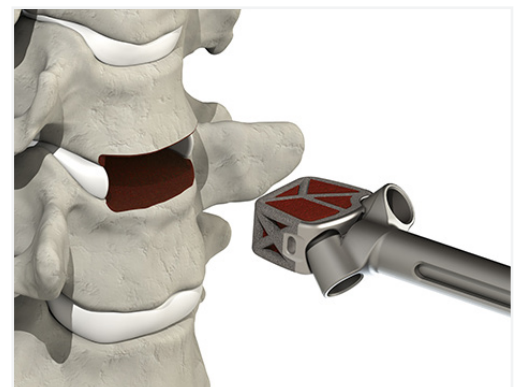

Figure 9
- ▲ Introduce the implant into the prepared intervertebral space and tap it into place with a mallet (Fig. 9). Confirm the proper placement of the implant using fluoroscopy.